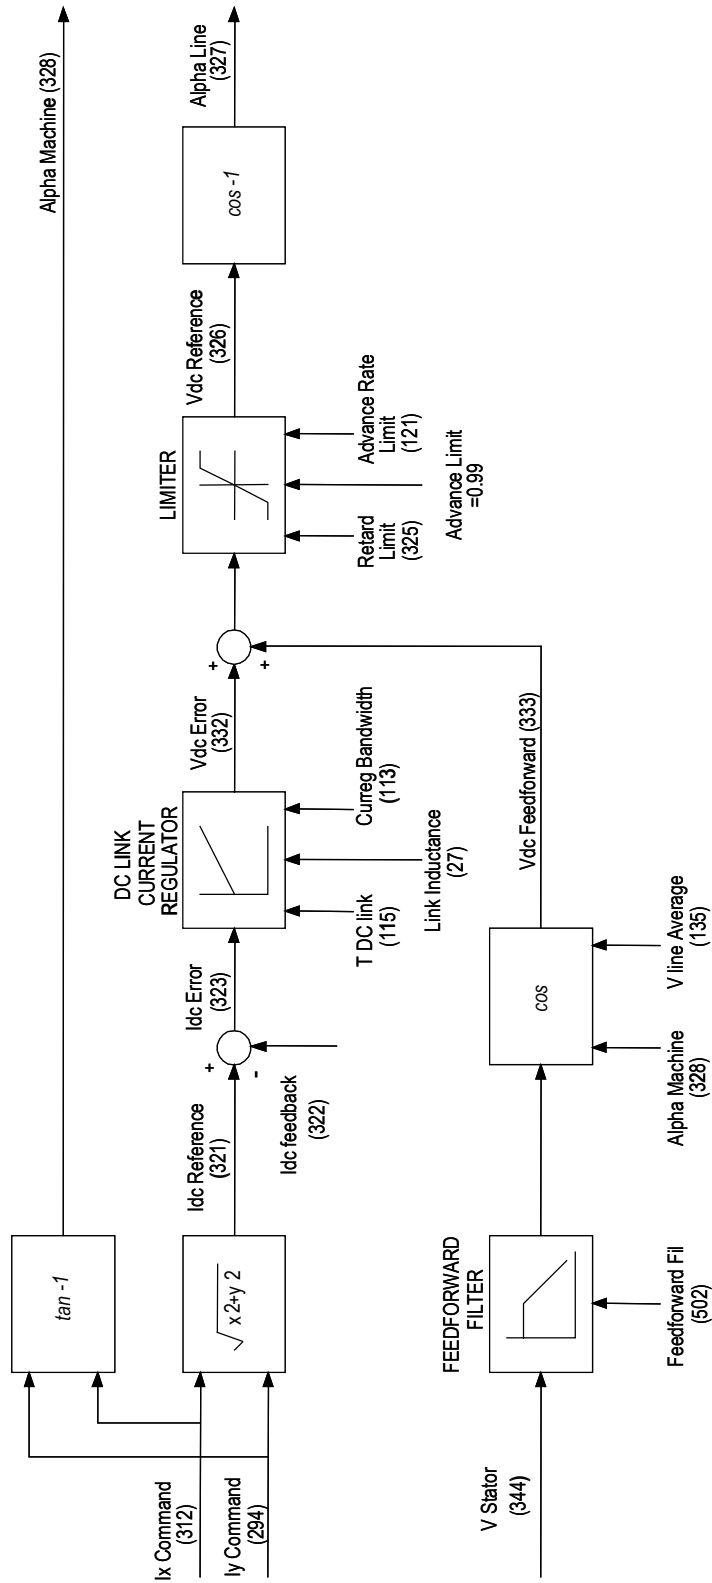

Figure 5.7 – Current Control
The function of the current control block (Figure 5.7) is to determine the firing angles for the converters *Alpha Line* (327) and *Alpha Machine* (328). The inputs are the torque (*Iy Command*) and flux producing (*Ix Command*) components of the dc link current command from the speed control and flux control blocks respectively, and the measured dc link current *Idc Feedback* (322).